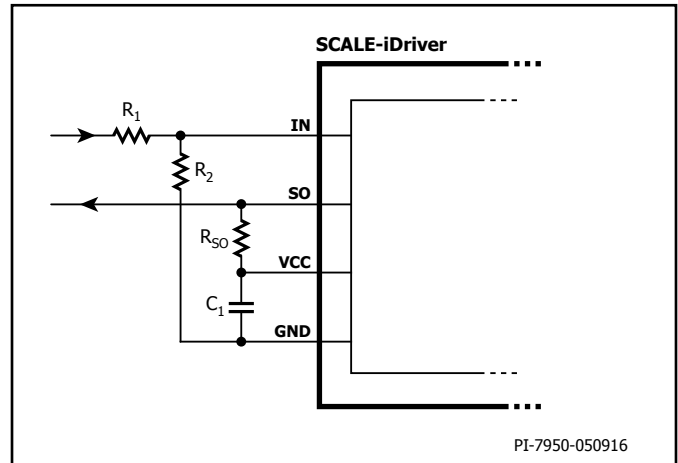

Figure 5. Increased Threshold Voltages  $V_{IN+LT}$  and  $V_{IN+HT}$  For  $R_1 = 3.3 \text{ k}\Omega$  and  $R_2 = 1 \text{ k}\Omega$  the IN Logic Level is 15 V.
The input (IN) and output (SO) logic is designed to work directly with micro-controllers using 5 V CMOS logic. If the physical distance between the controller and the SCALE-iDriver is large or if a different logic level is required the resistive divider in Figure 5, or Schmitt-trigger ICs (Figures 13 and 14) can be used. Both solutions adjust the logic level as necessary and will also improve the driver's noise immunity.